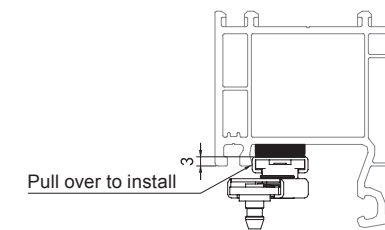

Figure 2
Step 2: Install it close to the side of the drainage groove to ensure that the installation height of the drainage groove is 3~5mm. (Figure 2);